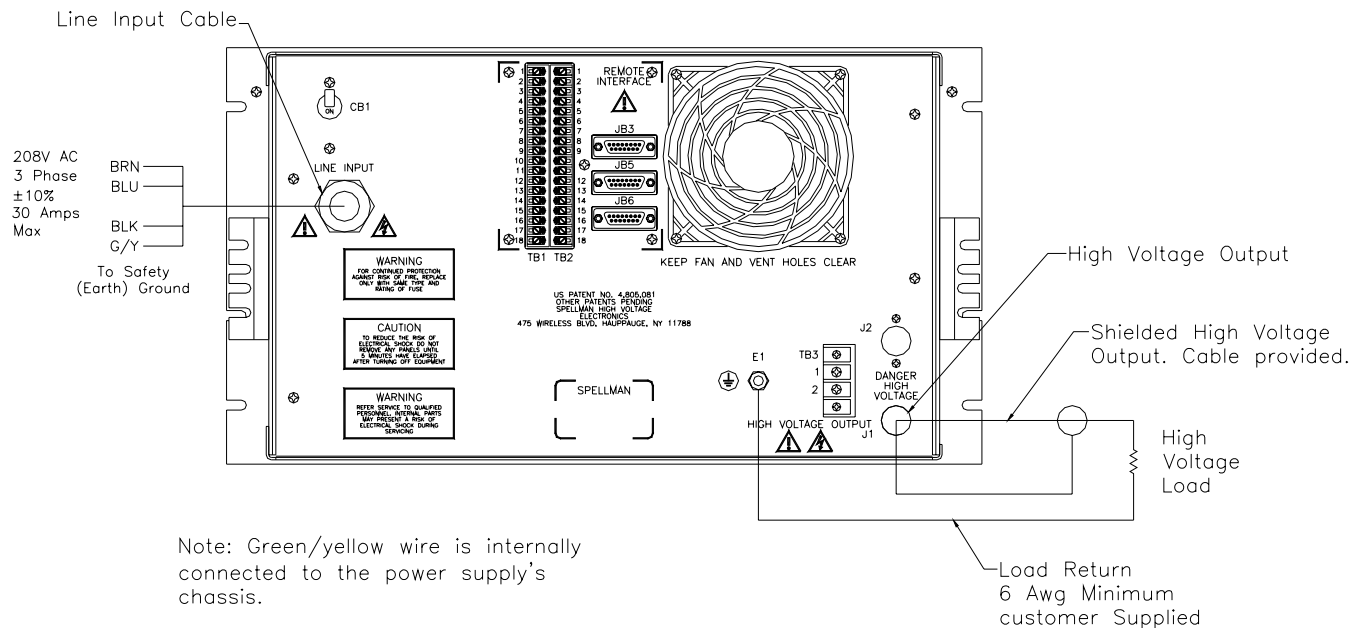

Figure 3.1 Typical Operating Setup SR
- C) **PROPER GROUNDING TECHNIQUE:** The chassis of high voltage power supplies must be grounded, preferably to a water system ground using copper pipe or other earth ground using the connection terminal at the rear of the unit.. See Figure 3.1 for a typical operating setup.